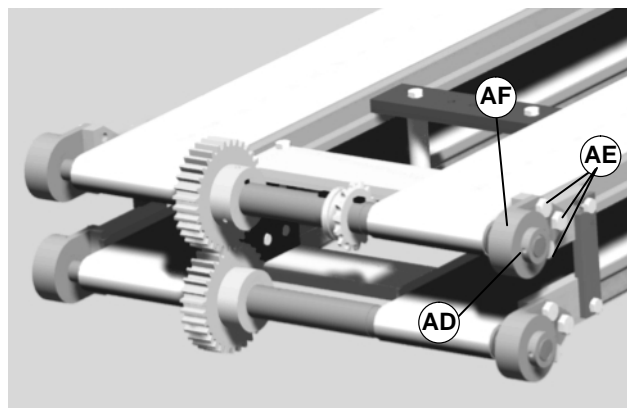

Figure 24
2. Loosen bearing set screw (AD of Figure 24).
3. Remove the three (3) bolts from bearing flanges (AE of Figure 24). Remove bearing (AF).